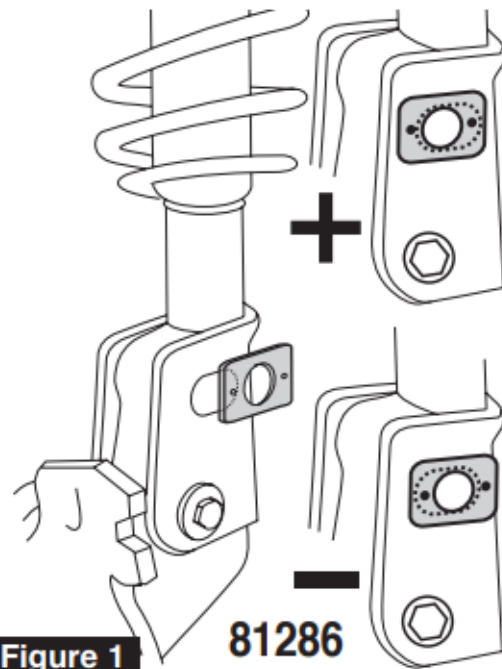

Figure 2
5. Line up small tab with cam on bolt. **Install bolt with large tab out toward wheel for positive camber or in away from wheel for negative camber (See Figures 2 and 3).** Install bolt into strut hole making sure the small tab on the washer is in the hole and the washer is flush on the strut. Add lock nut, snug, but do not tighten.